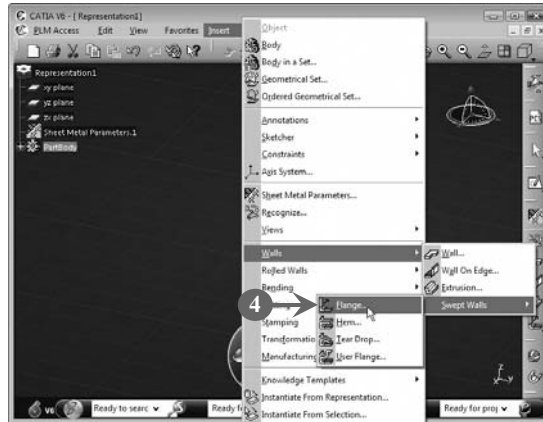

FIGURE 6.25
4. Select **Insert**>**Walls**>**Swept Walls**>**Flange** from the menu bar to create a flange, as shown in **Figure 6.25**: